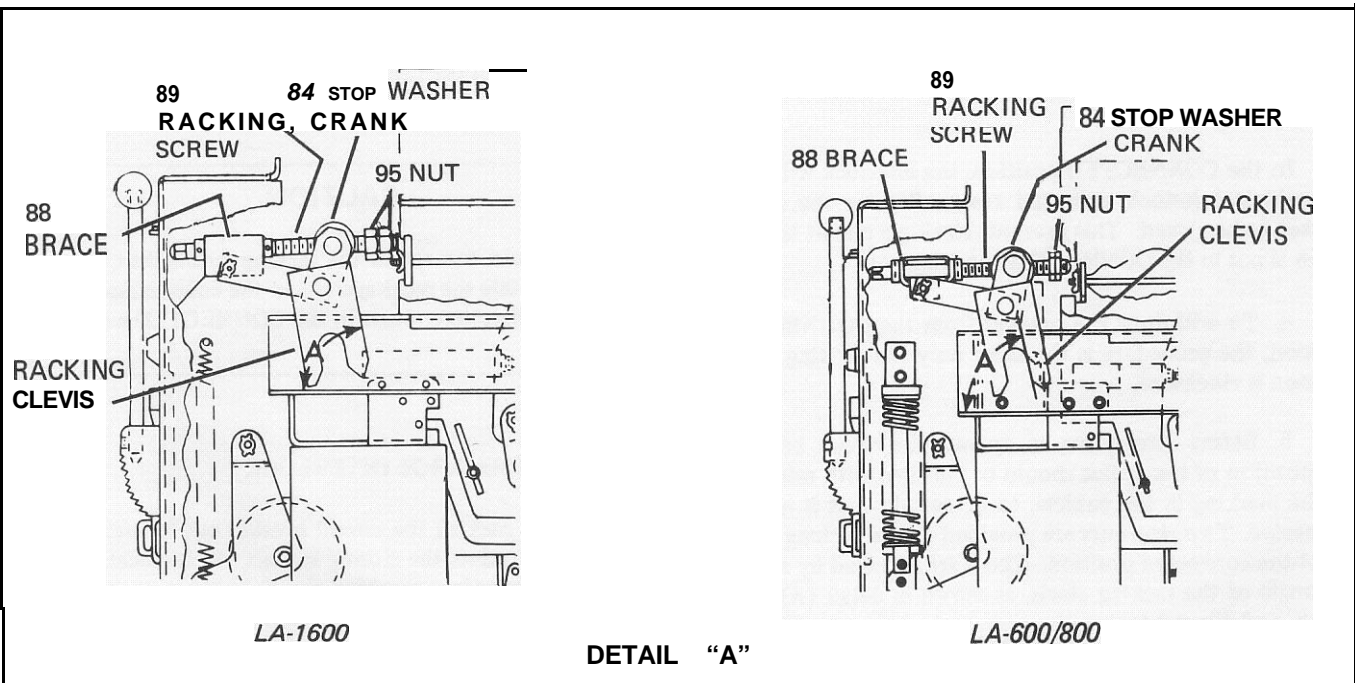

Figure 3. Detail of Typical Racking Mechanism and Drawout Interlock
Refer to Figures 3 and 3A, pages 9 and 10. With the circuit breaker resting on the cubicle rail, the following sequence should be used to rack the circuit breaker into the cubicle.
5. Before attempting to operate the circuit breaker, the position of the device should be checked with reference to the marking in the cubicle, to be certain that it is fully connected. Two stop nuts are provided on the racking screw to set the connected position. These are adjusted by setting the angle of the racking clevis, as shown in detail (A), Figure 3, and by tightening the nuts against the stop washer (84), the two nuts (95), should be then locked against each other.
Refer to Figure 3, pages 1 I-14, of Parts Ordering Guide 18X5215.02 for legend.